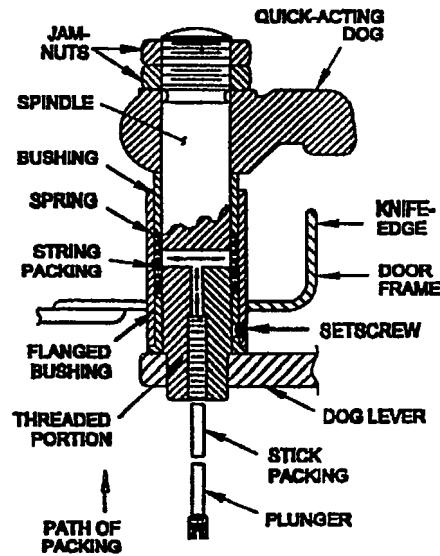
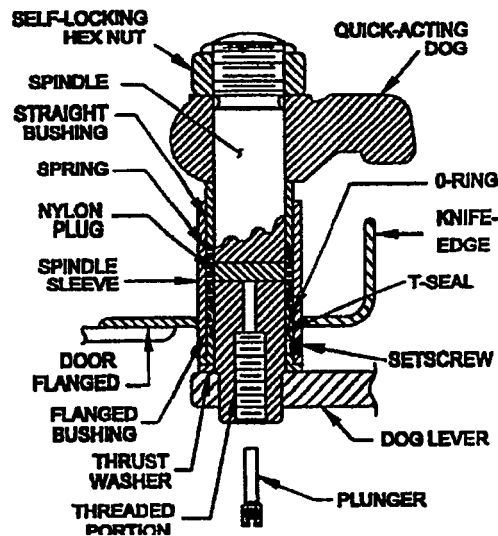
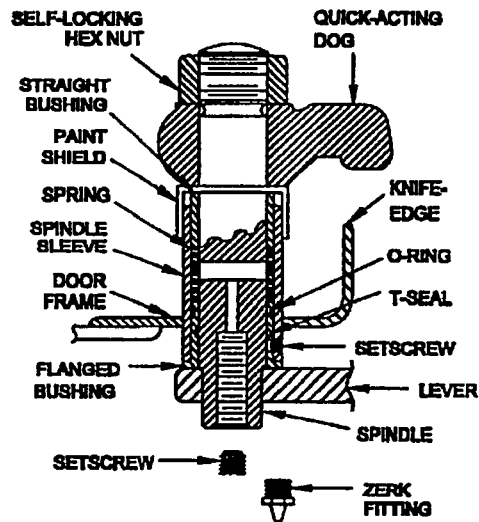

Figure 600-2.22. Quick-Acting Door Dog Assembly (Cross Sectional View)
Figure 600-2.23. Quick-Acting Door Dog Lever Assembly (Cross Sectional View) Modified by MACHALT 167-31004(ECP-444)
Figure 600-2.24. Quick-Acting Door Dog Assembly (Cross Section View) Modified by MACHALT 167-31010 (ECP-526)
- a. Inspect each dog assembly. Ensure that the straight bushing is firmly seated against the back of the dog and is free of dirt, rust, and paint. Ensure the flanged bushing is firmly seated against the end of the dog sleeve and is secured in place by its dog point setscrew. See figure 600-2.22. Setscrews are often painted over and may be difficult to locate. Remove paint as necessary to inspect for loose, missing, or broken setscrews. For self-lubricated bushings, a CRES thrust washer should be installed between the dog lever and the face of the flanged bushing. See figure 600-2.23.
- c. Ensure both jamnuts or self-locking hex nuts are in place on each dog assembly. Jamnuts should be locked tightly together. Remove any paint or dirt from the bushings with a wire brush and a clean rag. The straight bushing should not be stuck in the spindle sleeve and should rest against the back of the dog. If the bushing is jammed or stuck in the sleeve, it will have to be removed, and the interior of the sleeve cleaned out and lubricated, to ensure a free sliding fit of the bushing in the spindle sleeve. See figure 600-2.22, figure 600-2.23, and figure 600-2.24.